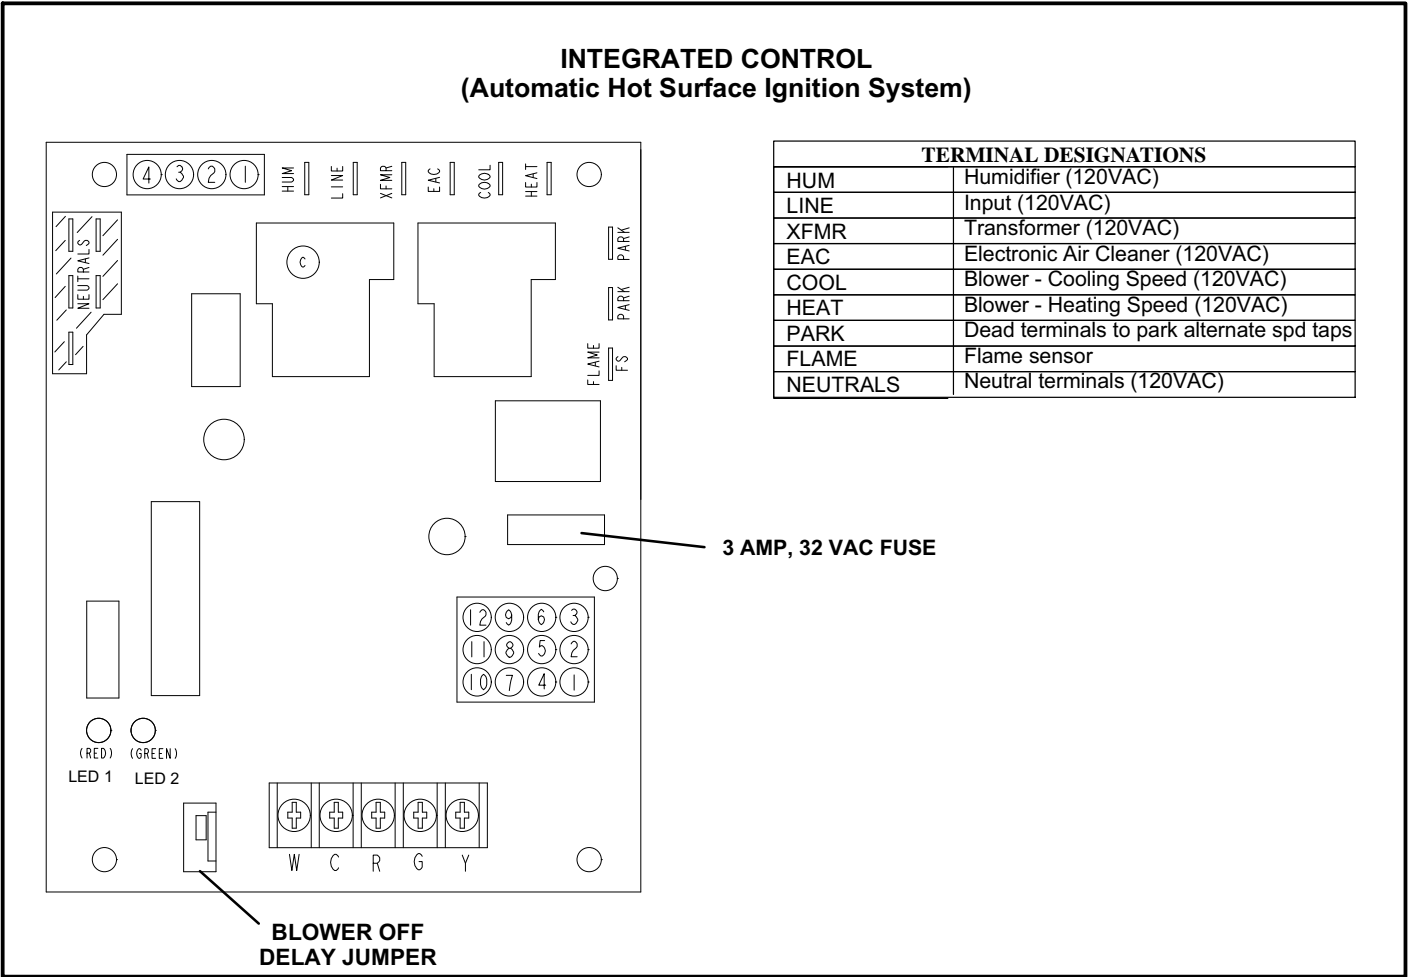

FIGURE 4
The ignition control system consists of an integrated control (figure 4) ignitor (figure 10) and flame sensor (figure 10). The integrated control and ignitor work in combination to ensure furnace ignition and ignitor durability. The integrated control, controls all major furnace operations. The integrated control also features two LED lights (DS1 red and DS2 green) for troubleshooting and two accessory terminals rated at (1) one amp. The integrated control also features a (3) amp fuse for overcurrent protection. Tables 1 and 2 show jack plug terminal designations. See table 3 for troubleshooting diagnostic codes. The 95 volt ignitor is made from a high strength, silicon nitride material that provides long life and trouble free maintenance. The integrated control continuously monitors line voltage and maintains the ignitor power at a consistent level to provide proper lighting and maximum ignitor life.